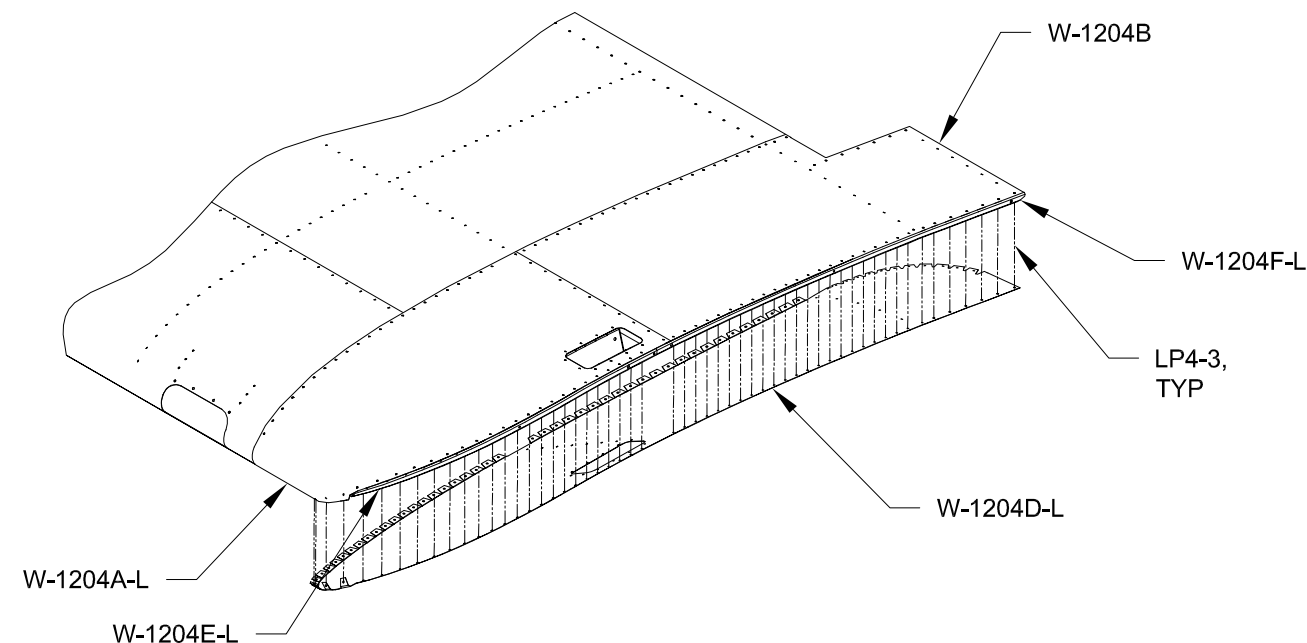

FIGURE 3: ATTACHING THE WING TIP CLOSE-OUT
Step 3: Cleco the W-1204D-L Wing Tip Close-Out to the wing as shown in Figure 3. Check to be sure that the fit is good and adjust the bend angles of the wing tip close-out tabs if/as required. When satisfied with the fit of the wing tip close-out, rivet to the wing.